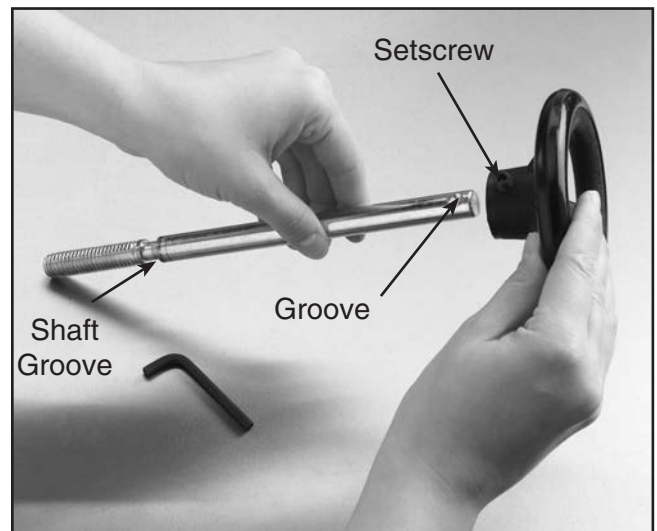

Figure 13. Wheel onto adjustment guide.
The wheel shown in **Figure 13** fits on the adjustment shaft. This locks in place by tightening the setscrew into the groove on the shaft. There is a threaded hole on the wheel that allows for the optional installation of a crank (not included).
3. Insert the adjustment guide into the screw bracket. Line up the shaft groove shown in **Figure 13** with the center bolt and screw the bolt into the groove as shown in **Figure 15**. Do not completely tighten the bolt. This will allow the shaft to spin without coming out.